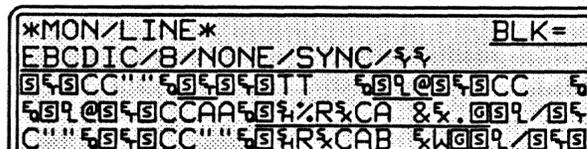

Figure 5-7 Single line display.
In single-line display (Figure 5-7), DCE (RD) data and DTE (TD) data are displayed alternately on the same line. They are easily distinguishable because DCE data is always underlined. Single-line is the display mode that is most economical of screen-buffer space.